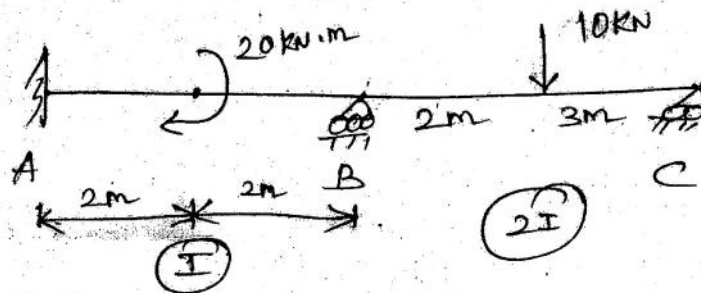

Figure-5.
5. Analyse the continuous beam shown in figure-5 by flexibility method.